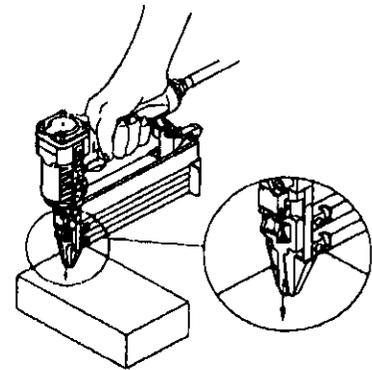

Figure 3-Contact Trip Operation
- The Sears 18 Gauge Brad Nailer is equipped with a contact trip safety mechanism (see Figure 3) that disables nailer unless contact trip is pushed against work. Hold tool handle firmly and press nose of tool on workpiece where nail is to be applied. Pull trigger to drive nail into workpiece.